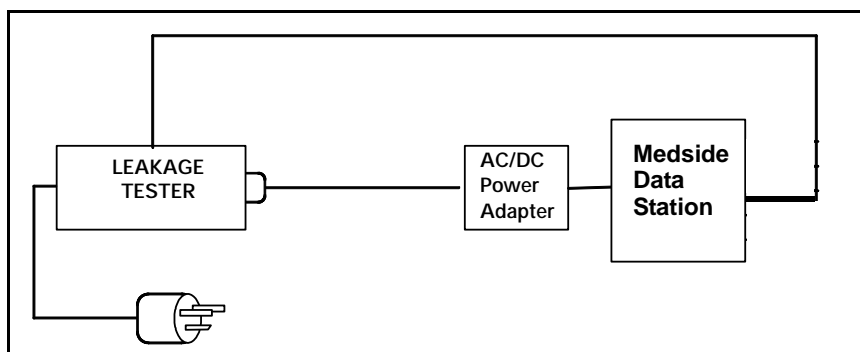

Figure 20-1 MDS Earth leakage current test setup
1. Perform leakage test with MDS power supply plugged into leakage tester. See Figure 20-1.